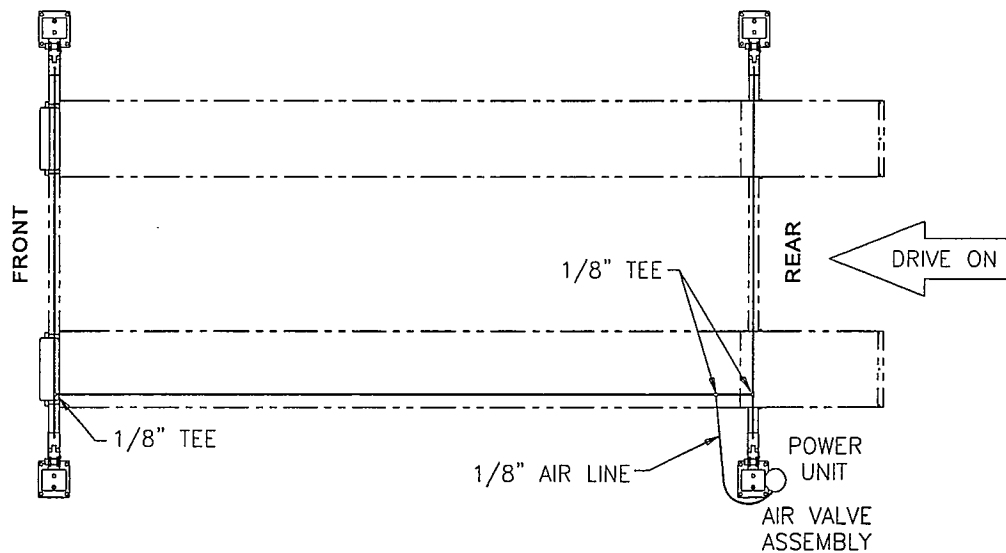

Fig 9
- a) Route air line from air valve assembly thru opening in runway to Tee. **Fig 9**